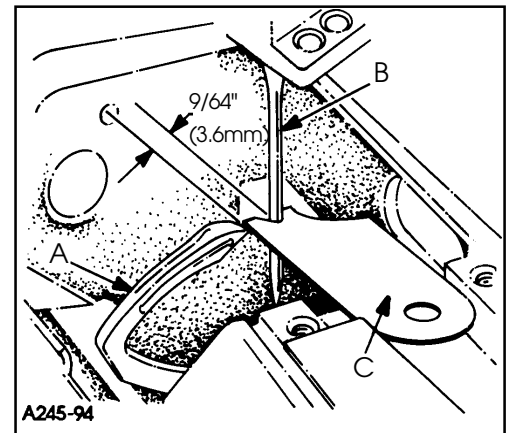
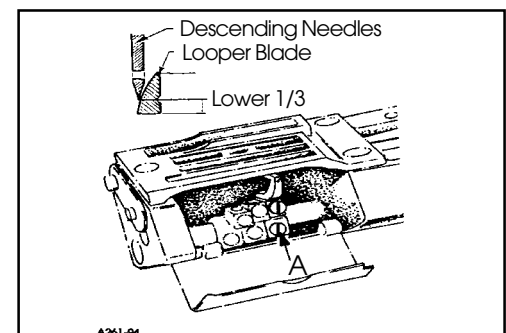

FIG. 6
FIG. 7
Insert a new set of needles, type and size specified. Always adjust the looper (A, Fig. 6) for the left needle first. Set the looper so that the distance from the center of the needle (B) to the point of the looper (A) is $9/64$ " (3.6mm) when the looper is at its farthest position to the left. Looper gauge (C) No. 21225-9/64 can be used advantageously in making this adjustment. If adjustment is required, loosen screw (A, Fig. 7) in looper holder, permitting movement in either direction to attain the $9/64$ " (3.6mm) dimension as shown in Fig. 6. Retighten screw (A, Fig. 7). Repeat for other needles and loopers.
Rotate handwheel in operating direction to assure that the looper point passes to the rear of the needle to touch but not deflect. This adjustment can be made by loosening screw (A, Fig. 7) in looper holder. Looper holder can be moved front to back to attain looper to needle setting. Always check the $9/64$ " (3.6mm) looper gauge setting after setting the looper to the back of the needle, and conversely, always check the setting of the looper to the back of the needle after setting the $9/64$ " (3.6mm) looper gauge.